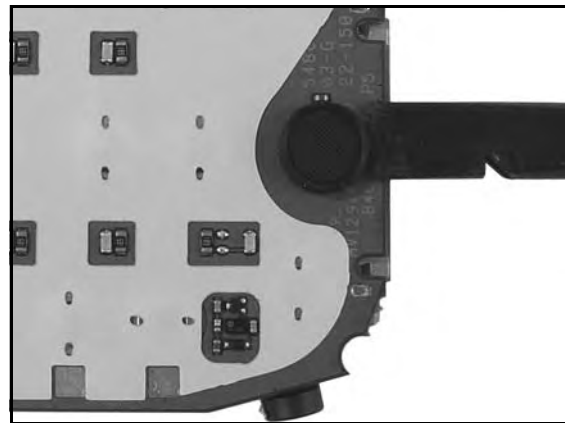

Figure 7-8.
2. Remove microphone seal by inserting point of black stick under seal skirt and gently prying up on seal perimeter. Do not push microphone or nearby components (see Figure 7-8).